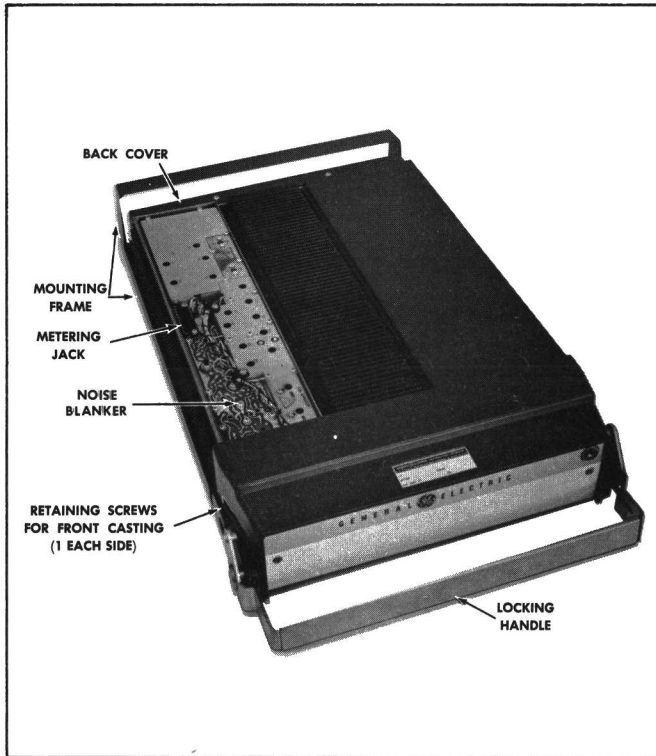

Figure 2 - Top Cover Removed
| Figure 2 Removing Top Cover | 7 |
1. Loosen the two Phillips-head retaining screws in front casting (see Figure 2), and pull casting away from system frame.